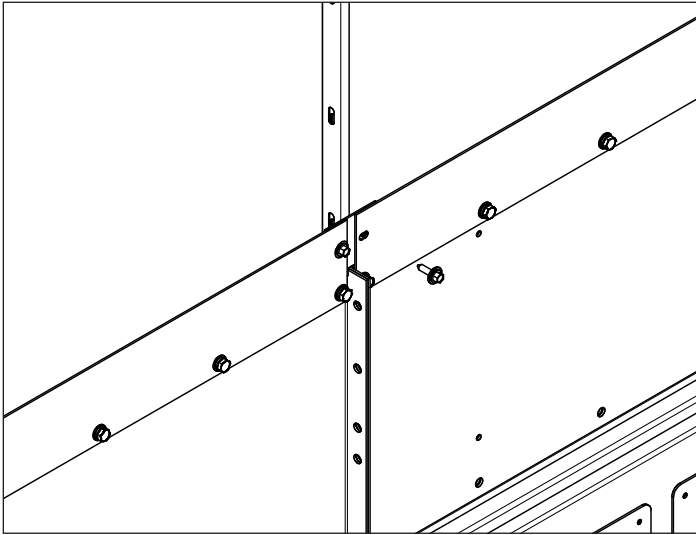

Figure 34. Gas deflector splice plates
- C Between adjacent sections, the front / rear gas deflectors must be joined together using splice plates (87C1128H03). Insert the splice plate behind the installed gas deflectors as shown in **Figure 34** and secure using 1/4" self-tapping screws.